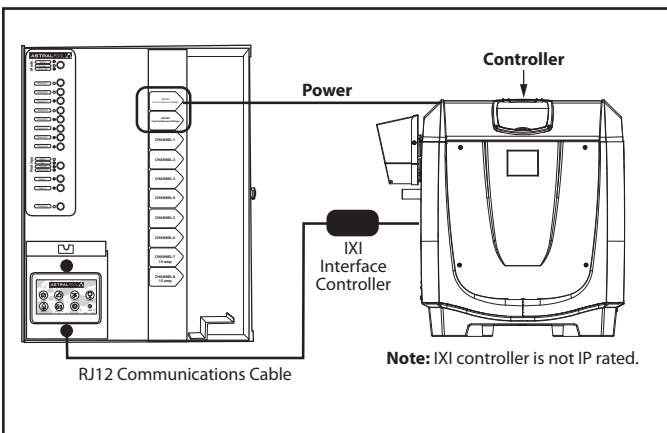

Figure 19. IXI to Viron Connect Power Connection
- Connect the other side of the RJ12 cable to one of the six (6) RJ12 connectors located on the Viron Connect 10.
- Connect the IXI gas heater to one of the two constant 240V outlets on the Viron Connect 10. See Figure 19.